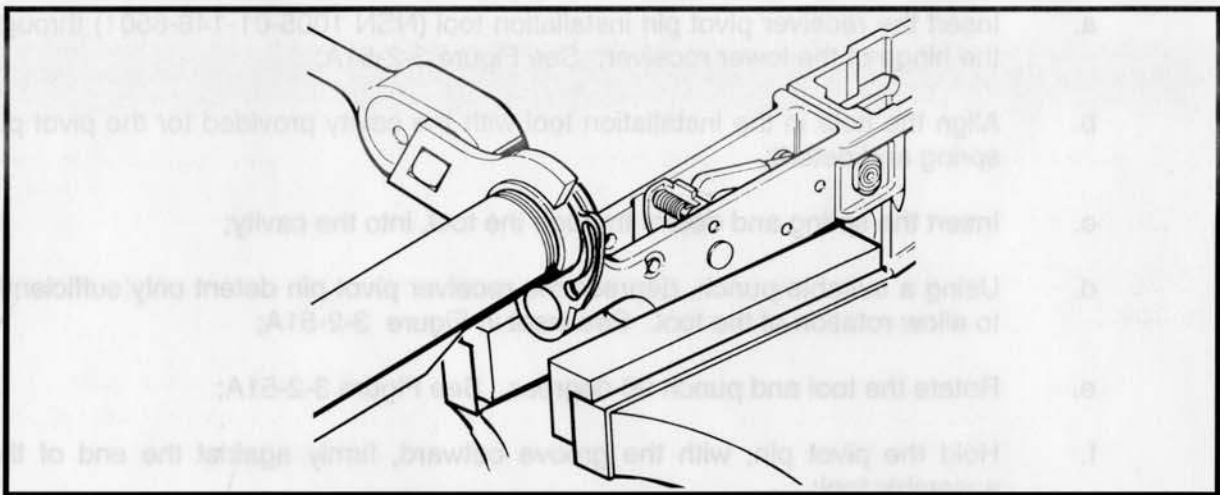

Figure 3-2-52 Unscrewing the Receiver Extension Nut
- b. Unscrew the receiver extension nut, in a clockwise direction, with the hook-spanner wrench (NSN 5120-21-896-7523) and a 1/2 inch drive ratchet. See Figure 3-2-52;